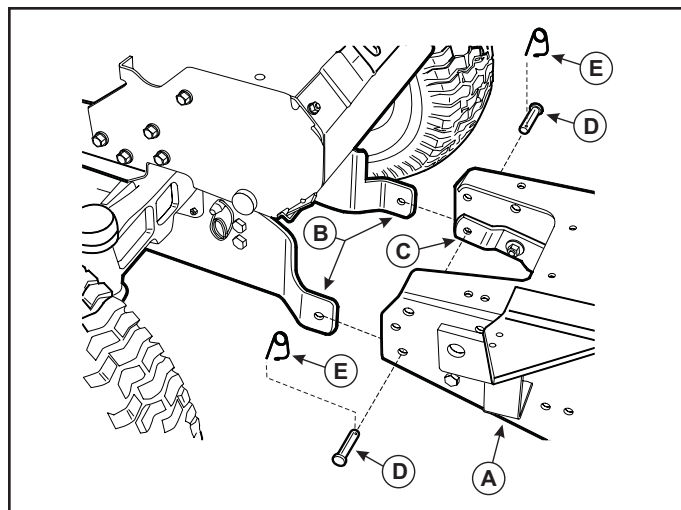

Figure 25. Snow Thrower Installation
8. Remove both quick clips (E, Figure 25) and snow thrower mounting pins (D).
9. Move the snow thrower assembly (A, Figure 25) out of the way.